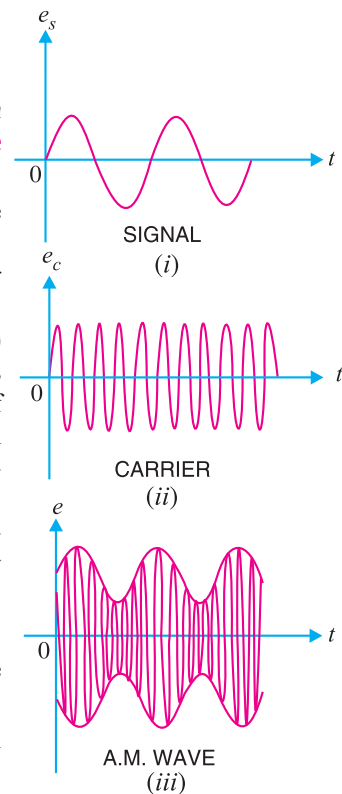

Fig. 16.2
In amplitude modulation, only the amplitude of the carrier wave is changed in accordance with the intensity of the signal. However, the frequency of the modulated wave remains the same i.e. carrier frequency. Fig. 16.2 shows the principle of amplitude modulation. Fig. 16.2 (i) shows the audio electrical signal whereas Fig. 16.2 (ii) shows a carrier wave of constant amplitude. Fig. 16.2 (iii) shows the amplitude modulated (AM) wave. Note that the amplitudes of both positive and negative half-cycles of carrier wave are changed in accordance with the signal. For instance, when the signal is increasing in the positive sense, the amplitude of carrier wave also increases. On the other hand, during negative half-cycle of the signal, the amplitude of carrier wave decreases. Amplitude modulation is done by an electronic circuit called **modulator**.